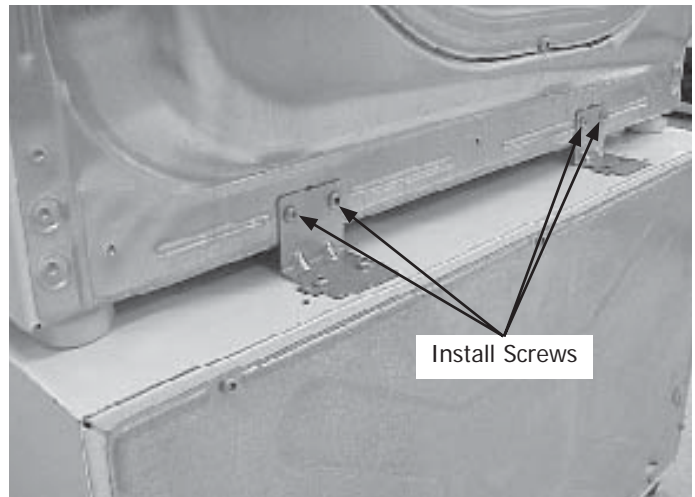

Figure 2-36.
6. Align the sides of the dryer with the sides of the pedestal and attach the dryer to the rear brackets using four #10 screws (2 per bracket) as shown in Figure 2-36.